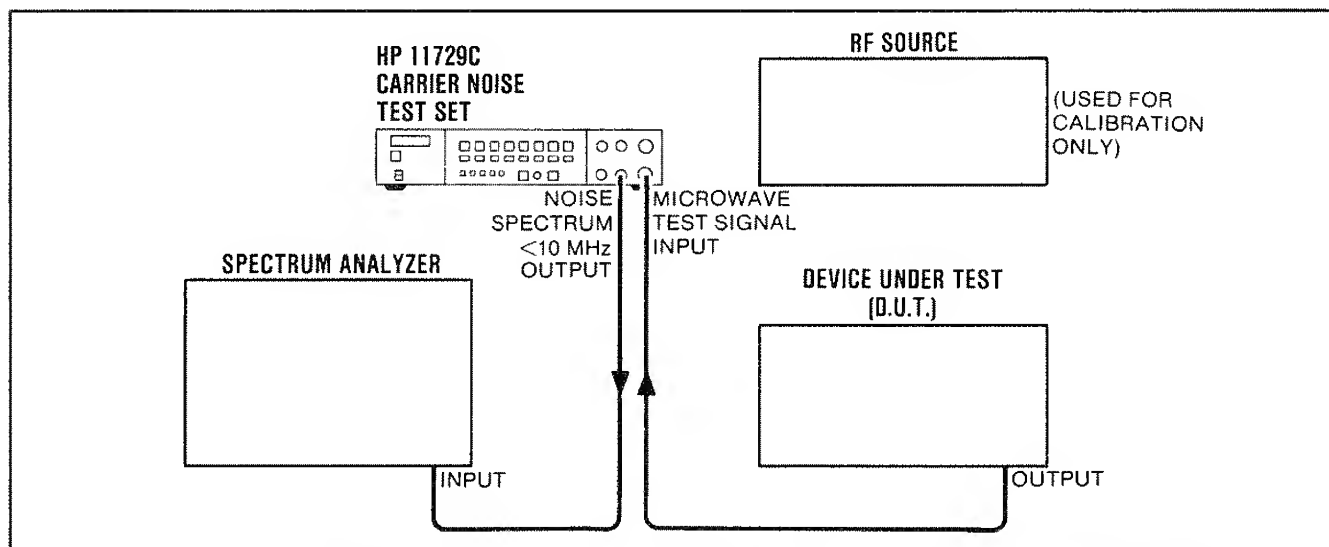

Figure 3-8. Interconnections to the Carrier Noise Test Set When Making an AM Noise Measurement
1. Figure 3-8 shows interconnections to the Carrier Noise Test Set when making an AM noise measurement.